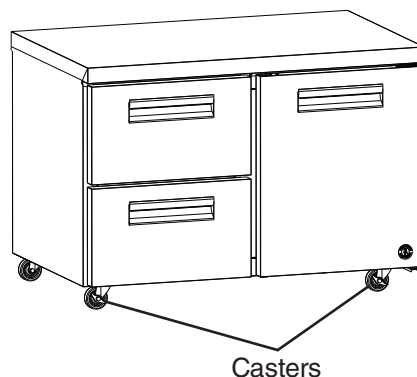

Fig. 23
- 1) Remove all items from the appliance. Make sure the appliance is unplugged from the electrical outlet. Move the appliance out for ease of access then lock the casters. See Fig. 23.